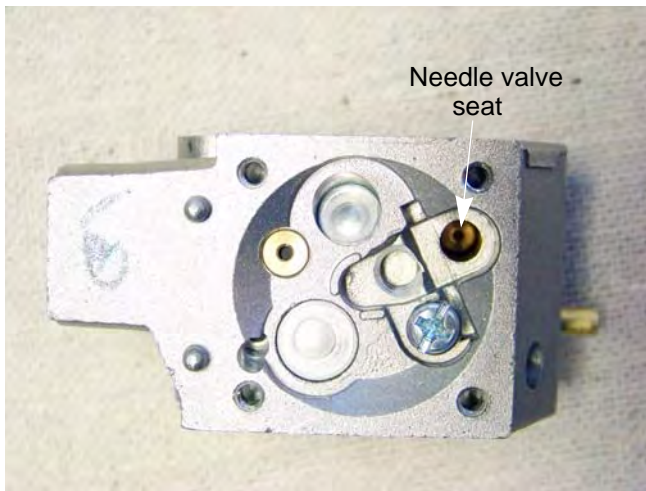

Figure 5.25
3. If the needle valve seat is damaged, replace the carburetor. See Figure 5.25.